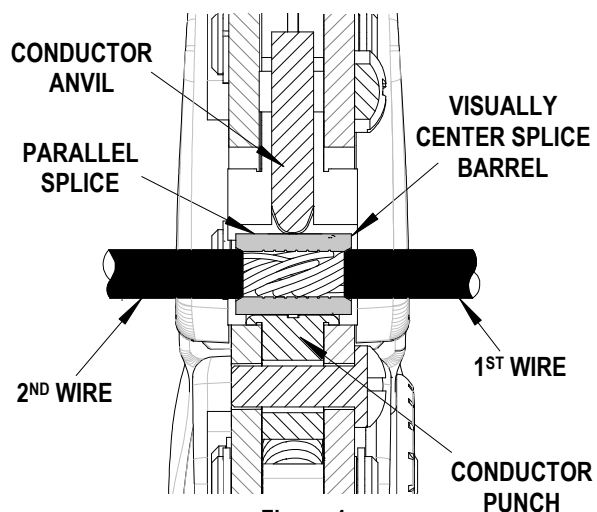

Figure 4
4. When crimping parallel splices insert the first wire into one end of splice then insert the second wire into the opposite end of the parallel splice. This procedure will crimp both wires at the same time. Make sure the wires are fully seated into the parallel splice. Position the splice and the wires in the nest with conductor crimp on the conductor barrel of the splice. The splice should be approximately centered inside the tooling nests. See Figure 4. Cycle the tool.